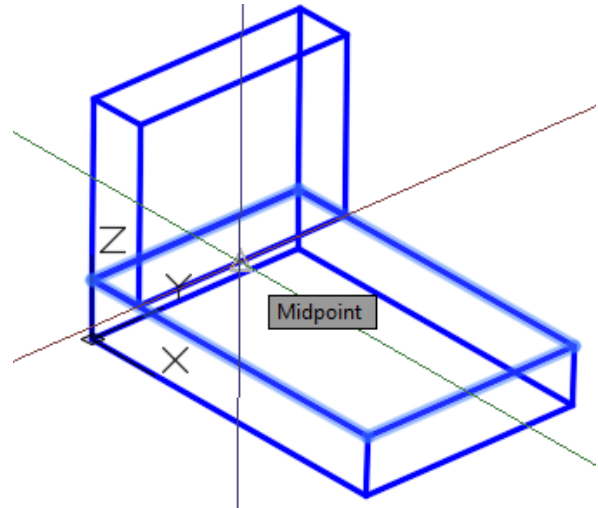

Figure Step 7A
Step 7 Using one of the orbit commands, orbit the model slightly. Enter the WEDGE command, as shown below, to create a solid wedge primitive as shown in the figure. Using the MOVE command, move the wedge to center it. Move the wedge by snapping to the midpoint of the wedge to the midpoint on the box. (Figure Step 7A, 7B, and 7C)
(See Figure Step 7A)